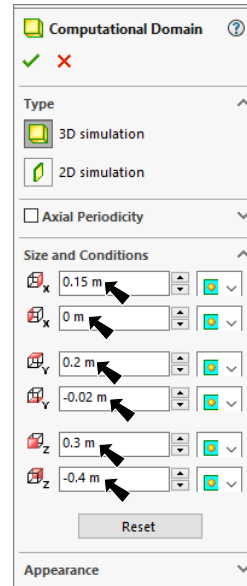

Fig. 9
Step 2. Set values as shown here and Fig. 9.